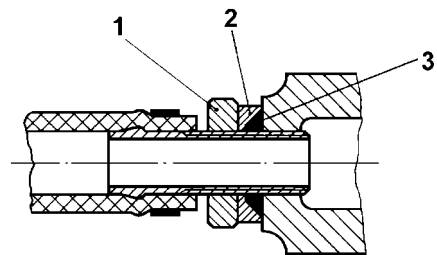

Fig. 3
- For intake connection at the cylinder head, the use straight or curved pipe (minimum sweep 40mm) with thread M26 x 1.5, inside diameter 20 ÷ 22 mm is recommended, see Fig. 3. Other variants might impair the air delivery performance of the compressor.